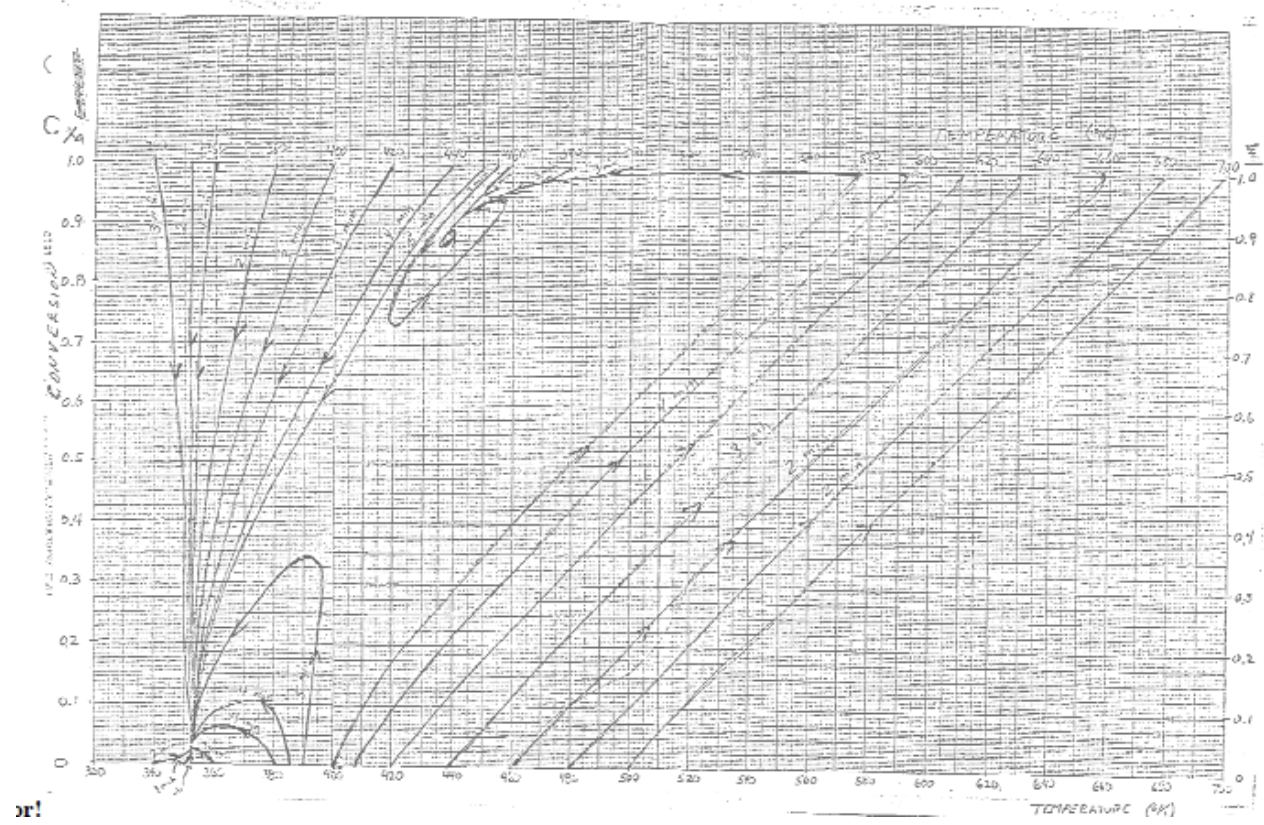

Figure 5. Transient operation of a CSTR for example 2
Figure 5 on next page shows the dramatic temperature excursions that the reactor can experience during start-up before it settles to a steady state.
e) See attached Figure 5.